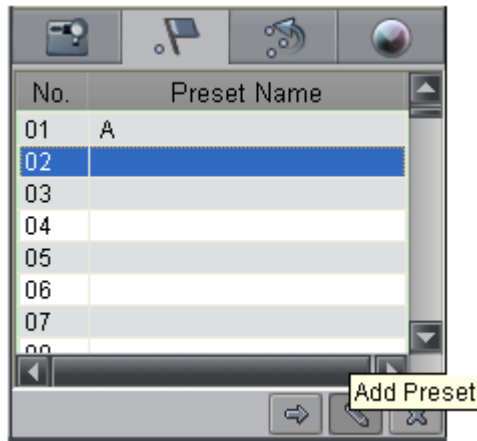
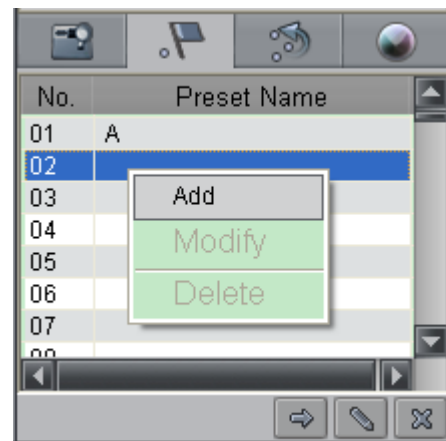

Figure 4.2.15 Add Preset
Figure 4.2.16 Add Preset
**Add Preset:** After having moved PTZ to the desired position, click the  icon from the Preview interface, select a preset number from the list, and finally click the *Add Preset* button to enter the *Add Preset* dialog box. Input the preset name in the text box, and then click *OK* to add the preset. Refer to Figure 4.2.15 and Figure 4.2.16. The preset can also be added by right-clicking the preset number and select *Add* submenu.